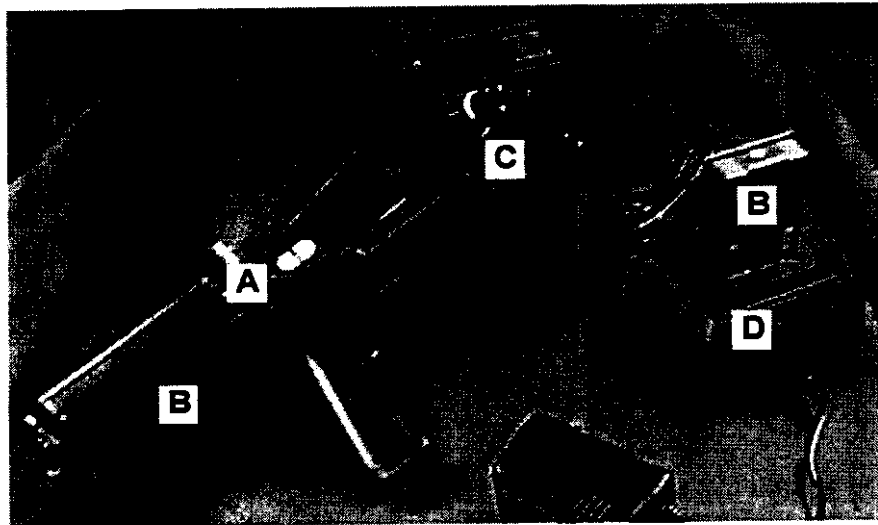

Figure 1 IT1110 Hand Held Reader Kit Showing (A) Hand Held Reader, (B) Two (2) Battery Packs, (C) Battery Eliminator, and (D) Battery Charger
The hand held reader kit consists of one (1) IT1110 Hand Held Reader, two (2) rechargeable battery packs, one (1) battery charger, and one (1) battery eliminator (Figure 1).